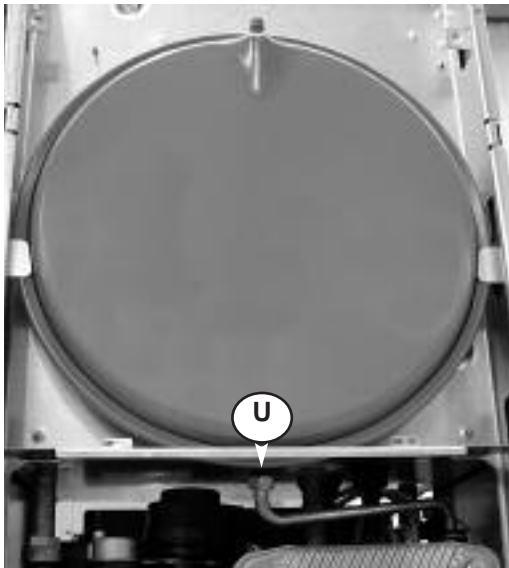

Fig. 98
4. Unscrew the nut **U** (see Fig. 98);